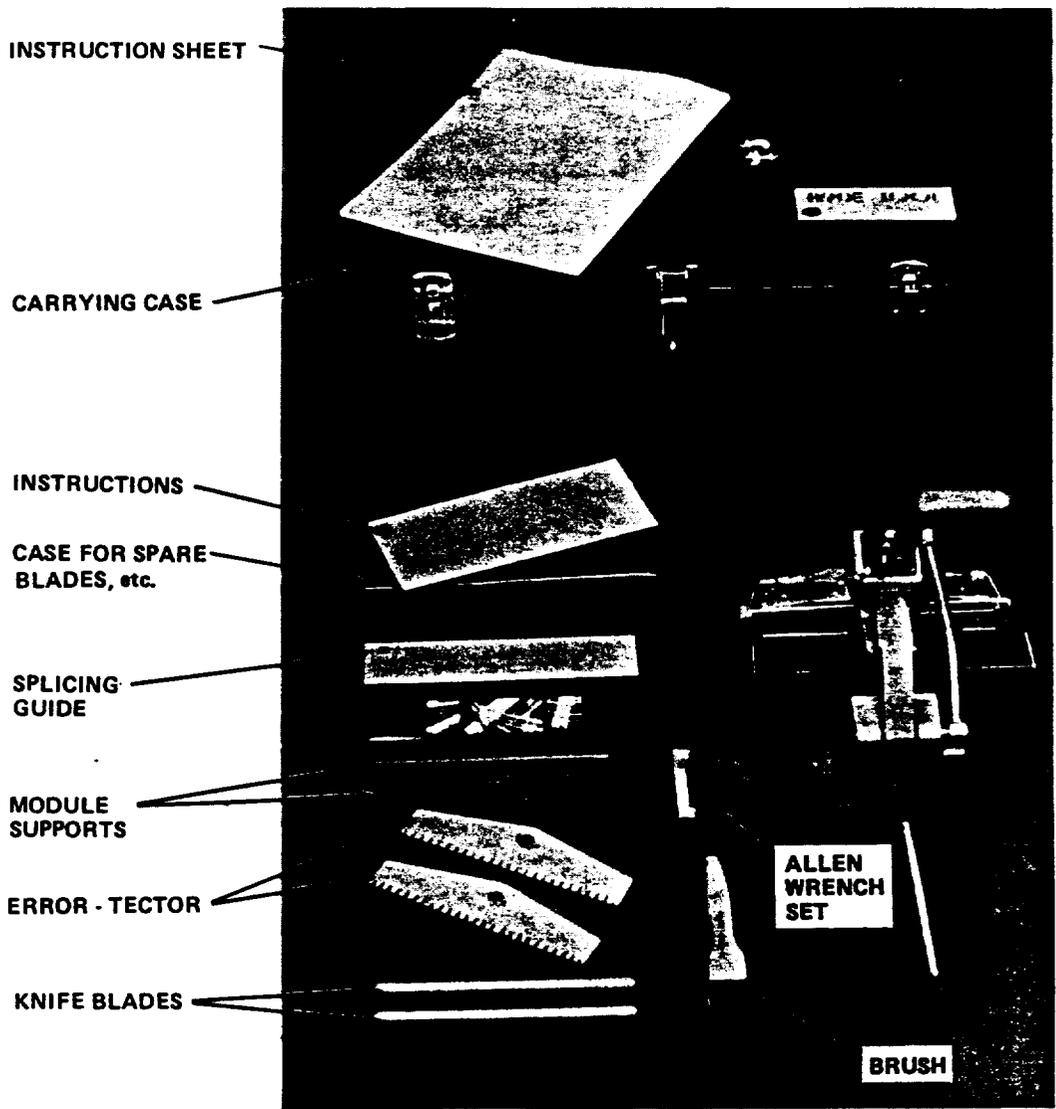

Figure 39. 890E Tool
5.03 The 890E tool (Comcode 104430319, Figure 39) is a manually-operated tool used for assembling 25-pair, 710 connectors. The 890B tool (Comcode 105229777) is similar to the 890E tool except that the test feature has been omitted. The hand-operated lever actuates a cam/hydraulic system that provides the power for assembling the connectors. The 890E tool is wired for use with pair verification test set.